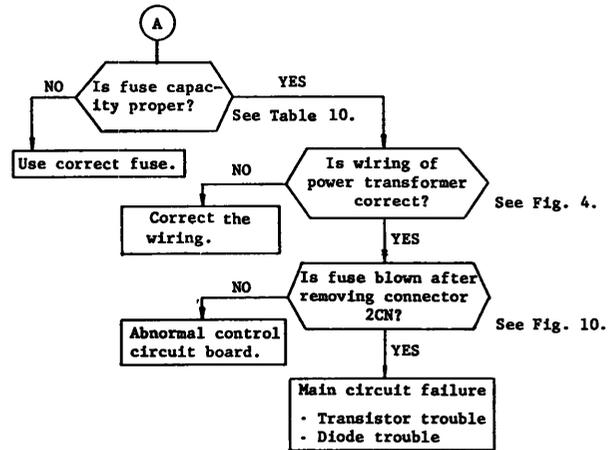

Fig. 14
- The fuse is blown, when the power is turned on (Fig. 14). --- (A)